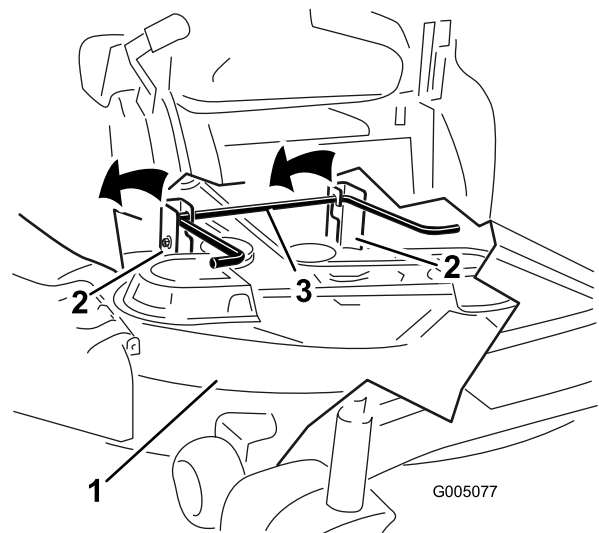

Figure 67
- Lift the mower deck and hanger brackets clear of the rear lift rod and lower the mower carefully to the ground (Figure 67).
- Lift the rear of the mower deck and guide the hanger brackets over the rear lift rod (Figure 67).